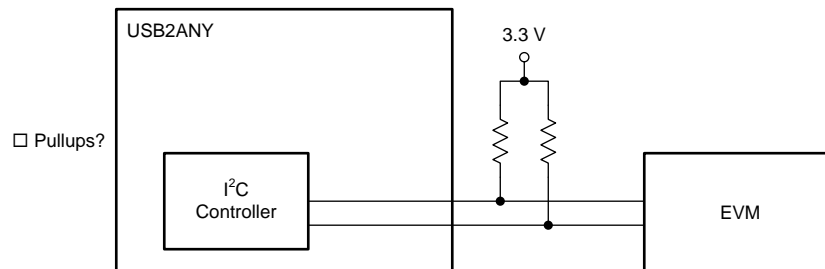

Figure 12. I2C Bus External Pullup Connection
- Uncheck the *Pullups?* checkbox if there are I2C pullup resistors somewhere else in your system (refer to Figure 12).
**NOTE:** The external pullup resistors (if used) must be connected to 3.3 V (Figure 12). Pullup voltages lower than 3.3 V can cause incorrect operation. Pullup voltages higher than 3.3 V can damage the USB2ANY interface adapter.